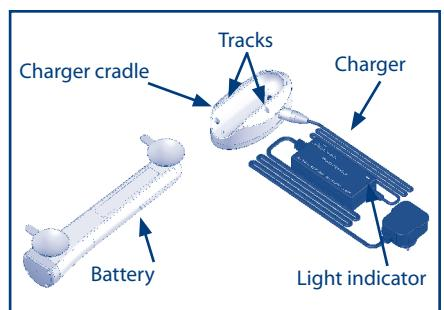

Figure 2
- A battery (see fig 2)
- Battery charger and charger cradle attached (see fig 2)
- i) Slide the battery into the track on the charger cradle until it clicks into place (see fig 2).
- iii) The light indicator on the charger box will initially flash in a quick sequence of red, green, red, green, before a constant red light appears to indicate charging is in progress (see fig 2).